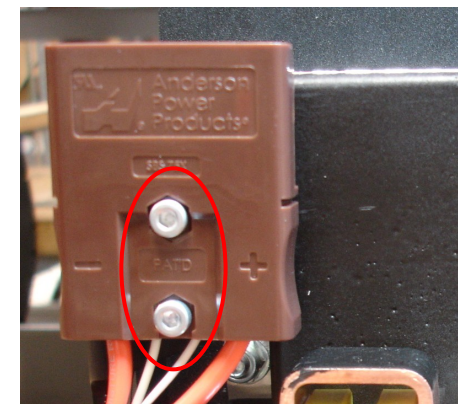

Figure 51
35. Install brown Anderson connector (attached to existing wiring harness) to MOUNT BRACKET CONTACTOR (ITEM 13) over DC-DC CONVERTER (ITEM 27) (**if model applicable). Mount using (x2) M4x20 SHCS (ITEM 31). See FIGURE 51.